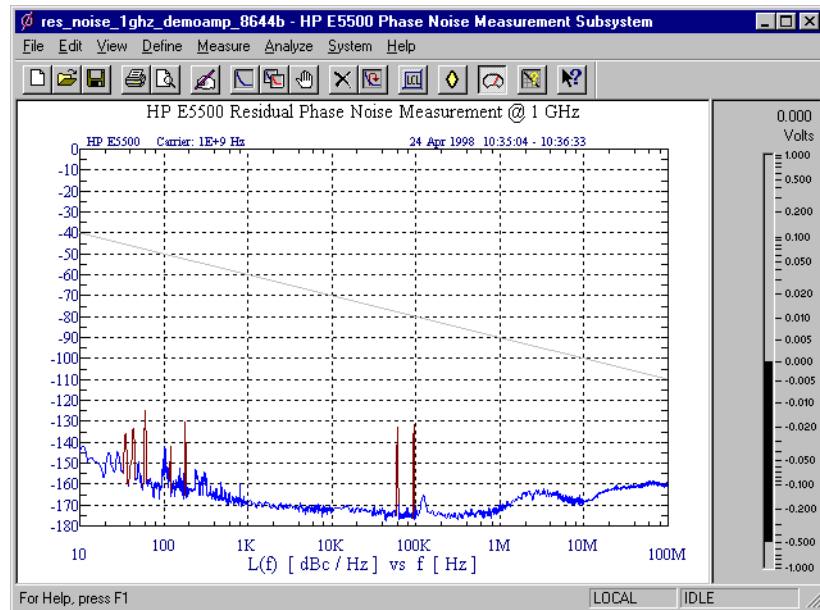

Figure 9-13 Adjust Phase Difference at Phase Detector
- 2 Adjust the phase difference at the phase detector as prompted by the phase noise software. See Figure 9-13.